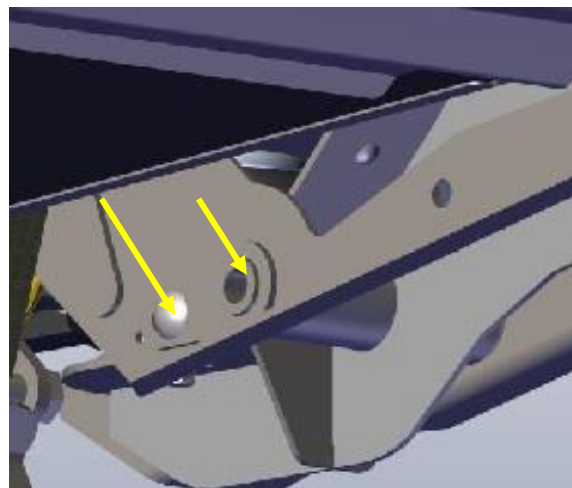

Figure 6
16. Remove the bolt holding the pin at the rear of the paddle, and remove the bolt and then slide out the pin. Figure 6